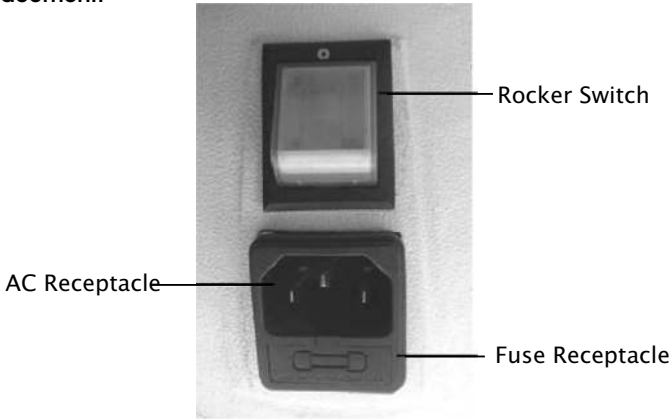

Fig. 9 (Fuse Replacement)
**⚠ CAUTION:** Disconnect input power before replacing fuse. For continued fire protection replace only with specified type & rated fuse. Fuse rating is 10 Amp. 2 extra fuses are provided with accessories. If a fuse blows, follow the steps below for replacement (Ref. Fig. 9)